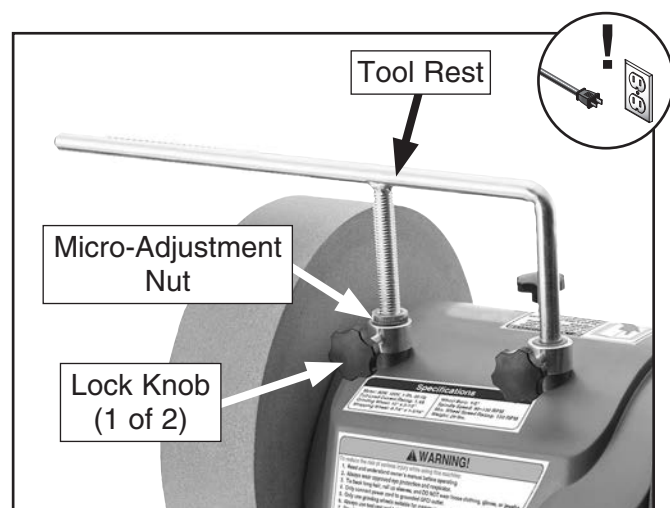

Figure 15. Tool rest inserted in vertical mounting holes.
2. Insert tool rest into desired mounting holes (see **Figure 15**). Refer to **Grinding Wheel Rotation** on **Page 23** to determine what position is needed for grinding operation.
3. Turn micro-adjustment nut shown in **Figure 15** to adjust tool rest height.
4. Tighten (2) lock knobs shown in **Figure 15** to secure tool rest position.